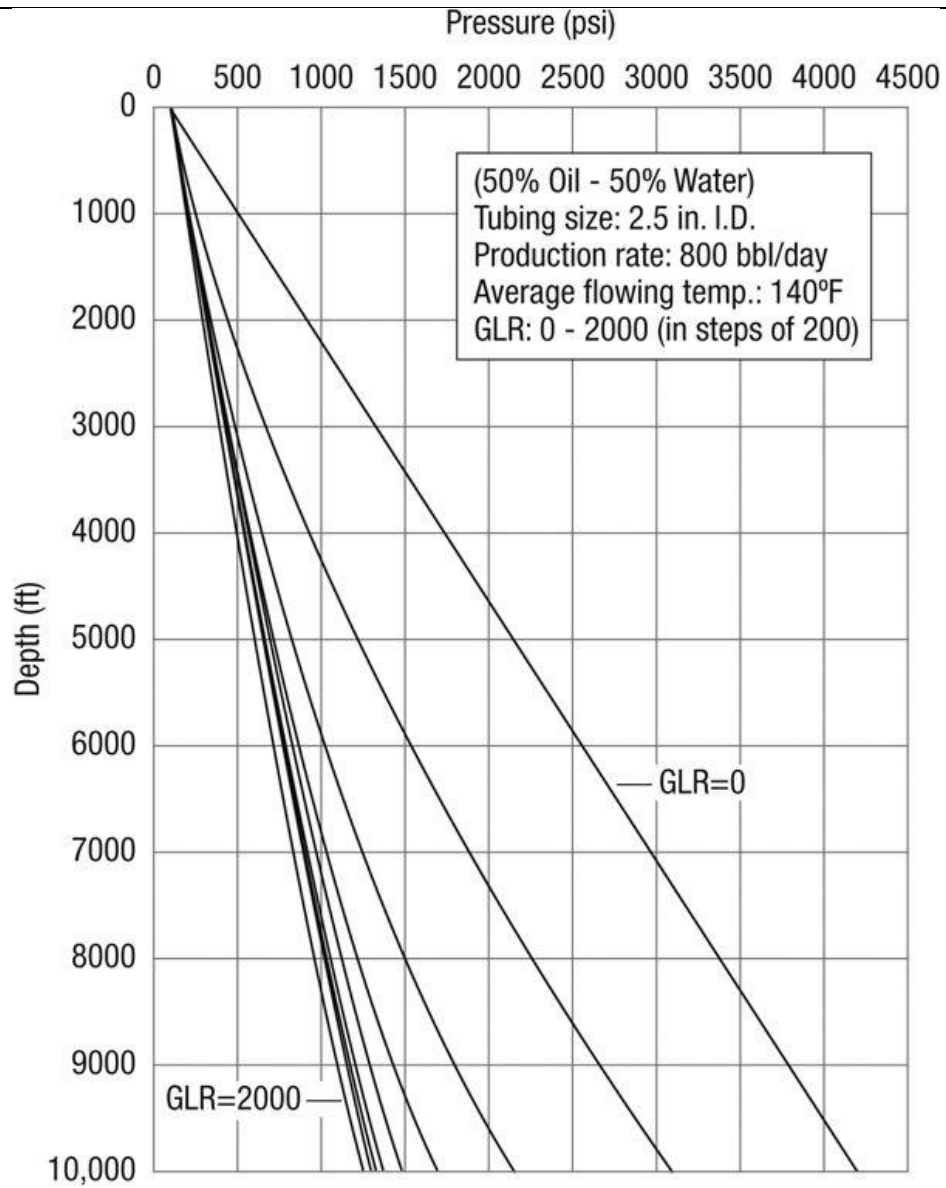

Fig. 1 Pressure gradient curves generated with the modified Hagedorn and Brown correlation.
b) An oil well is in a reservoir where height/depth (H) is 8000 ft and GLR is 200 SCF/STB. Find out the working GLR using pressure gradient curves generated with the modified Hagedorn and Brown correlation (**Fig. 1**). Indicated bottomhole pressure is 1500 psi. Calculate the volumetric flow rate of gas in SCF/d to be injected at the bottom of the well. Use following equation.